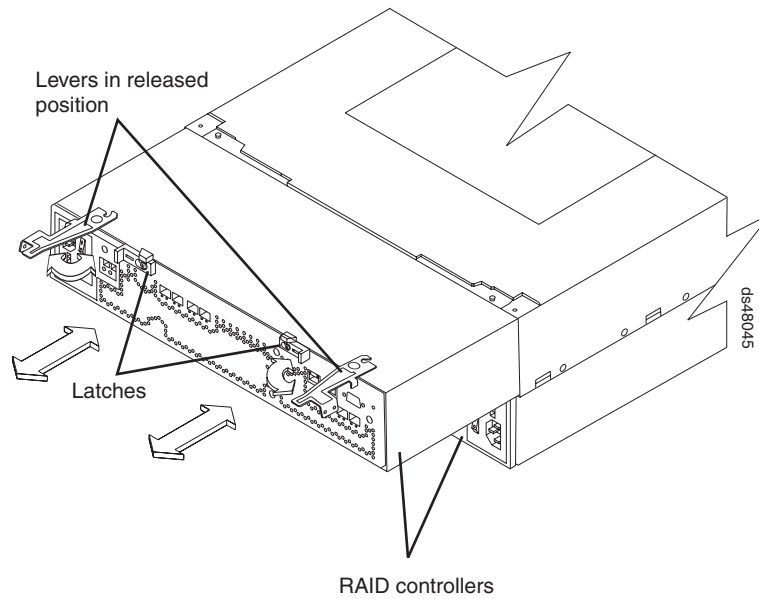

Figure 81. Removing the controller from the storage subsystem
- b. Use the levers to slide the controller from the storage subsystem chassis. (Figure 81 on page 135 shows a controller sliding from the storage subsystem chassis.)